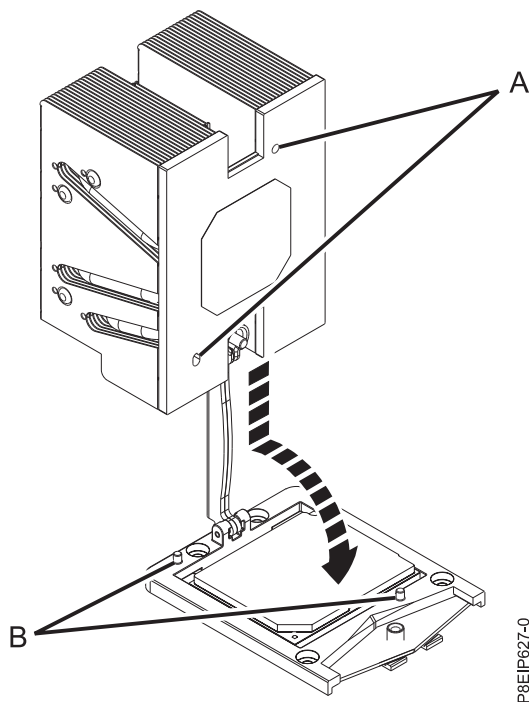

Figure 68. Installing the heat sink
10. Move the processor heat sink to the processor. If either the TIM or the heat sink is damaged, replace both the TIM and the heat sink. Carefully lower the heat sink over the system processor module, ensuring that the holes in the heat sink (**A**) align with the two guide pins (**B**) on the socket, as shown in Figure 68.